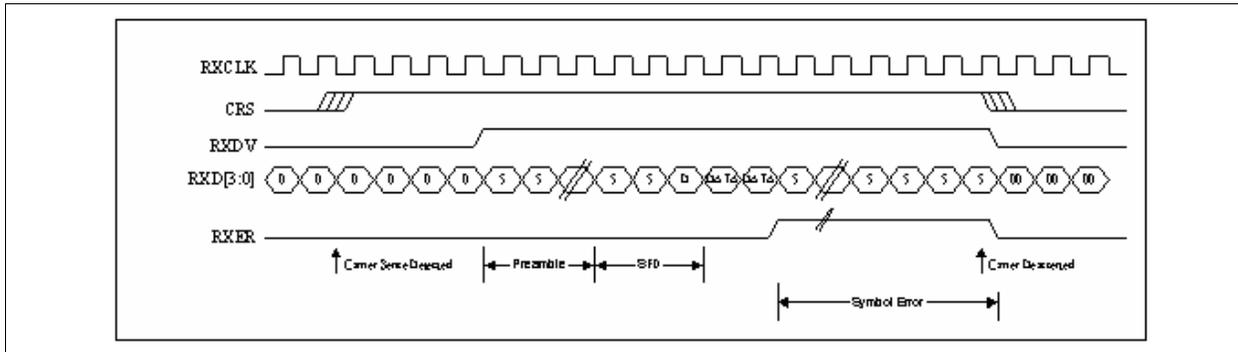

Figure 14 MII Receive With False Carrier
**Figure 14** shows the relationship among RXCLK, RXDV and RXD[3:0] during a received false carrier event. CRS is asserted asynchronously to RXCLK as in the valid receive case shown in **Figure 15**. However, once false carrier is detected, RXD[3:0] is changed to (1110) and RXER is asserted. Both RXD[3:0] and RXER transit synchronously to RXCLK.